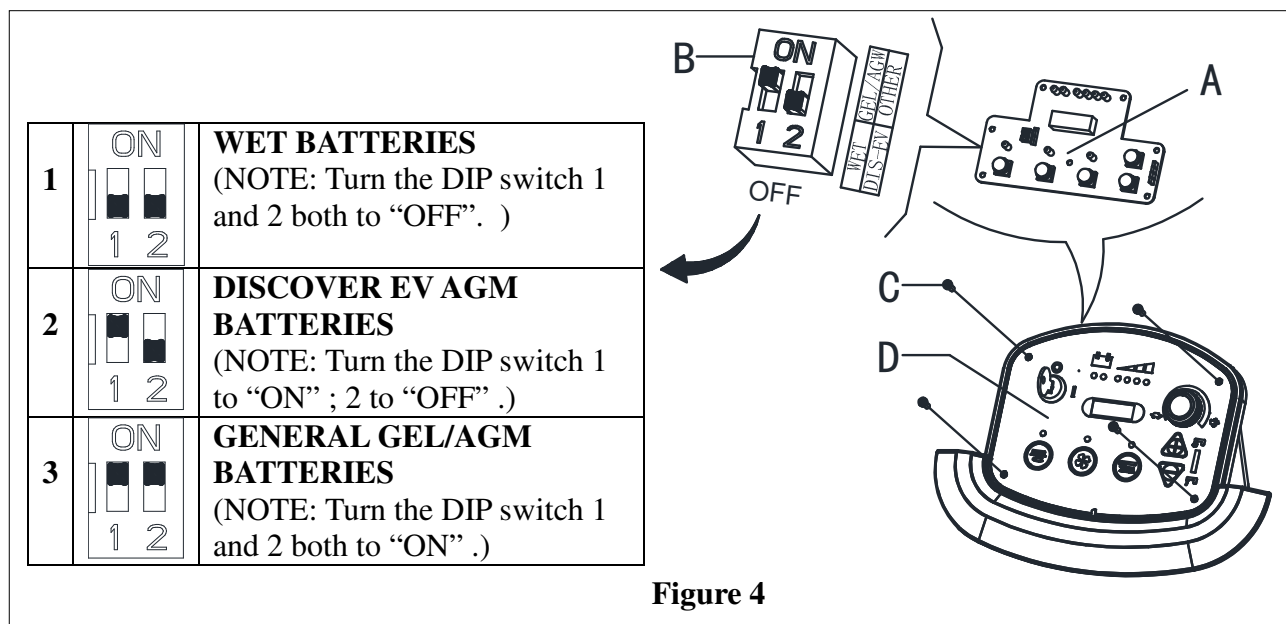

Figure 4
When install new batteries please refer to (Figure 4) to adjust the DIP switches. Otherwise the batteries may be damaged.
- Turn the ignition key (35) to “I” and in the very first seconds of machine operation pay attention to the following:
- If the first green warning light (38) is flashing, the machine is set to GEL/AGM.
- If the yellow warning light (37) is flashing, the machine is set to Discover EV AGM.
- If the red warning light (36) is flashing, the machine is set to WET.
- Remove the screws on control panel (C, Figure 4), then turn over the PCB (A, Figure 4) to find the DIP switch (B, Figure 4) for setting battery type (WET or Discover EV AGM or GEL/AGM), (Refer to 1 or 2 or 3).